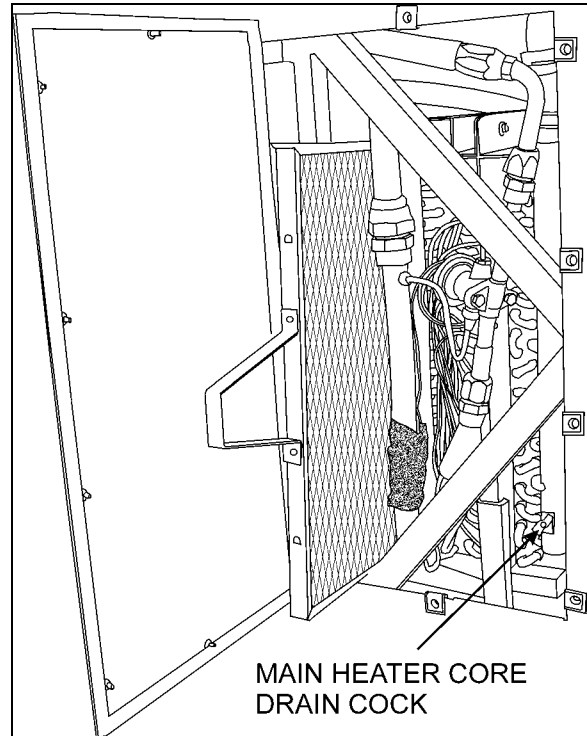

FIGURE 43: EVAPORATOR COMPARTMENT 22327
4. Open drain cock in bottom of heater core, you can unfasten a hose connection on top of heater core (Fig.43) in order to allow air to enter while draining.